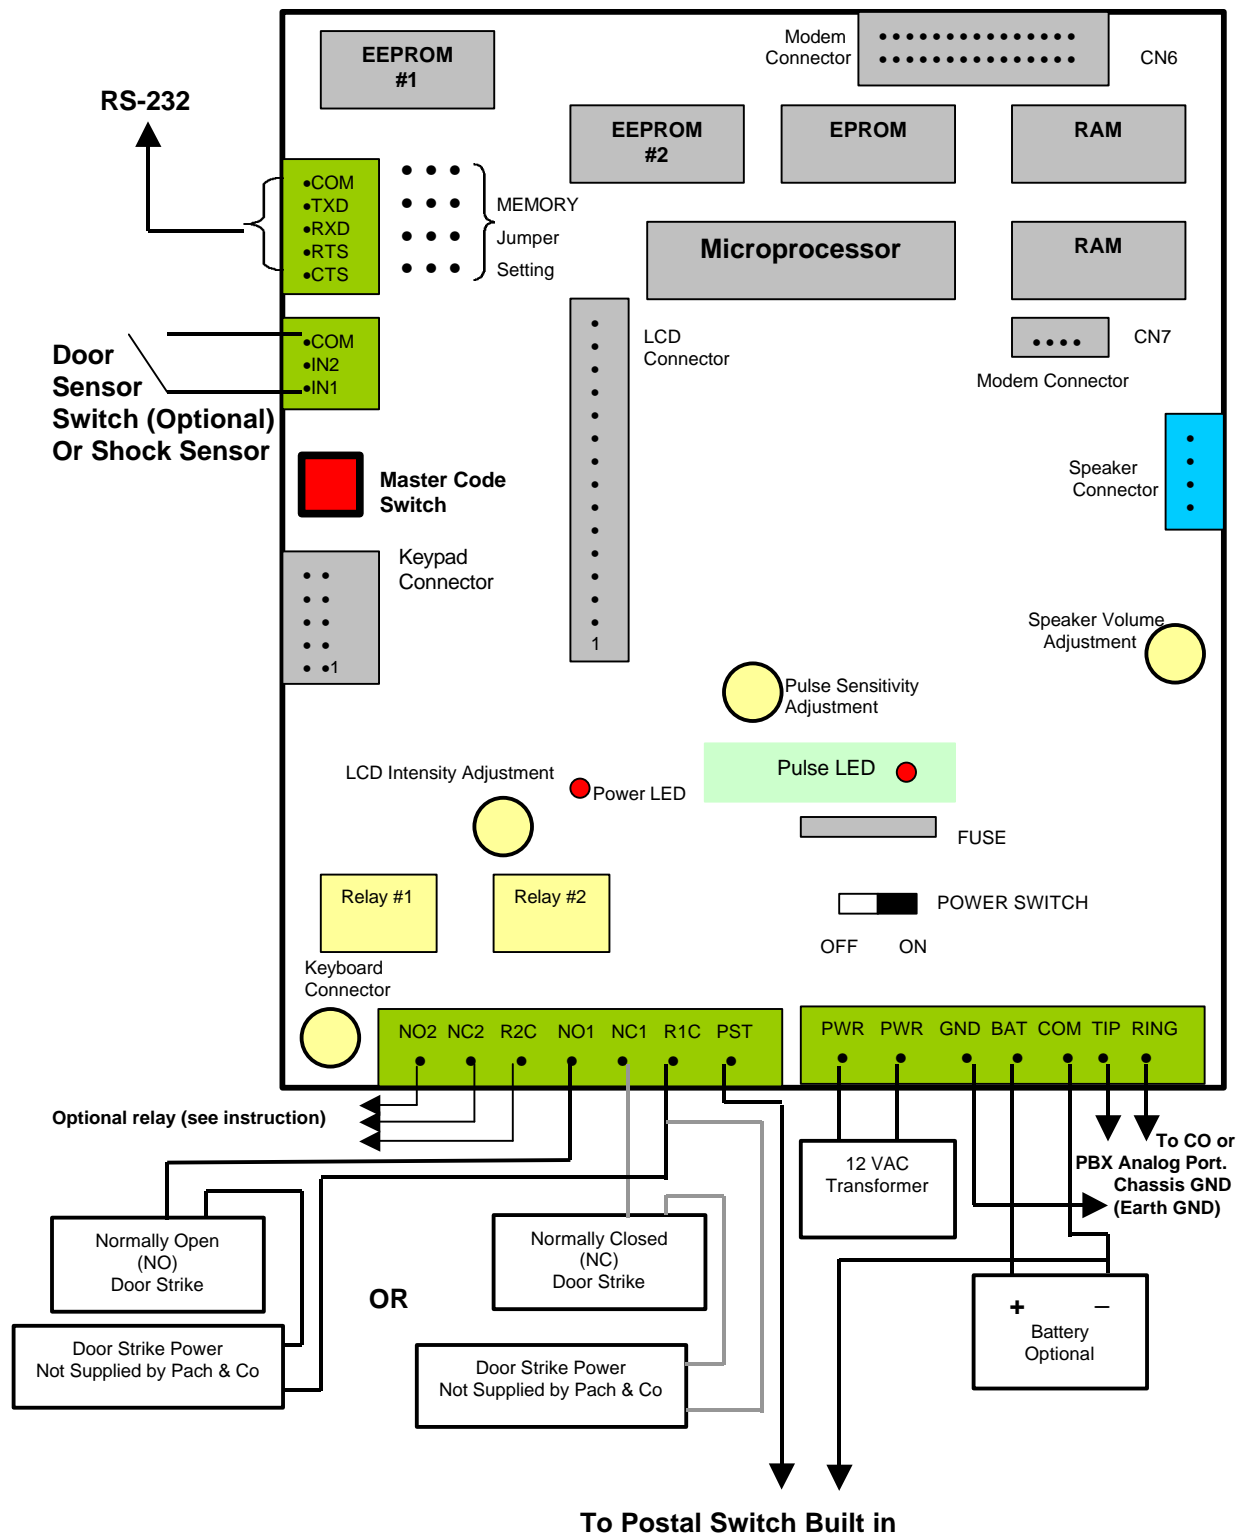

Figure 2.1 AeGIS 9000 Wiring Diagram
- Connect the telephone line to the connector labeled Tip and Ring (polarity is not important). See figure 2.1 for wiring diagram. **You MUST use 18 gauge-shielded wire minimum** to avoid radio reception or any other noise problems.
- Connect the transformer's output (secondary) to PWR and PWR (labeled on the board, polarity is not important) and the primary to 110 VAC. If ASP-1 is used, see the ASP-1 instructions. **You MUST use 18 gauge-shielded wire minimum.** See figure 2.1 for wiring diagram.
- The connection is polarity sensitive. Connect (+) terminal of the battery to the connector labeled (BAT) on the AeGIS 9000 and the battery's (-) terminal to the connector labeled COM on the AeGIS. See figure 2.1 for wiring diagram.
See figure 2.1 for door strike wiring diagram. **You MUST use 18 gauge-shielded wire minimum.** Use an MOV or other surge suppresser device across the door strike leads to limit the possibility of door strike related system failures. The system relay specifications are below.